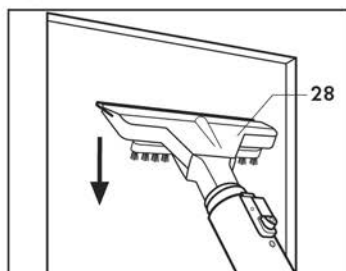

Fig. 12
- Press the rubber blade onto the surface and vacuum any water on the surface by moving the tool vertically from top to bottom (**Fig.12**).